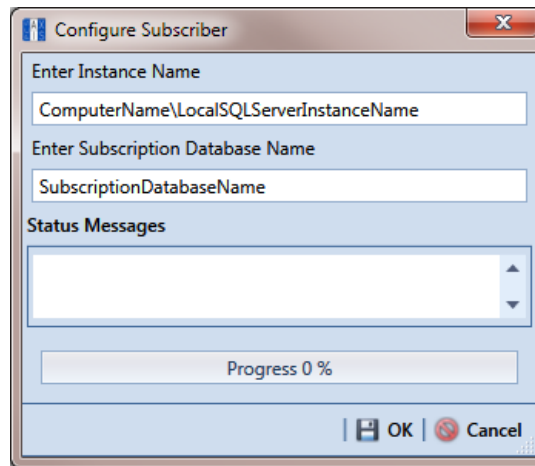

Figure 16-6. Configure Subscriber
- 2 Click **Tools > Configure Subscription** to open the *Configure Subscriber* dialog box (Figure 16-6, page 643).